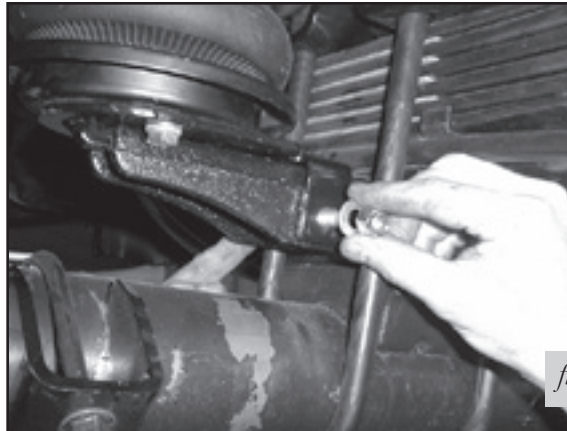

fig. 16
10. Insert a bolt (H) and washer (K) through the bracket and strike plate. Install a washer (K) and nut (J) and torque to 16 lb.-ft. (Fig. 16).